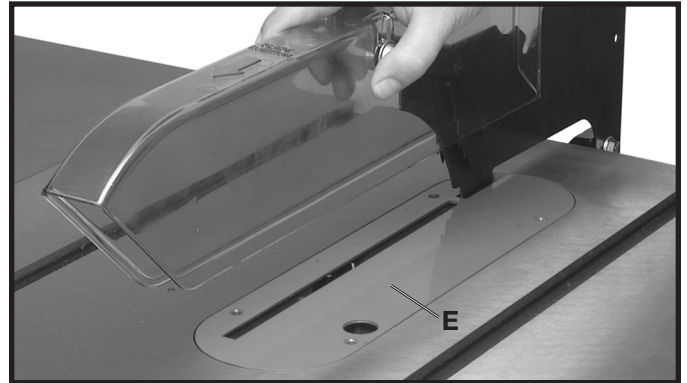

Fig. 30
13. Holding the clear blade guard, lower the saw blade and assemble the table insert (E) Fig. 30, into the opening on the saw table.